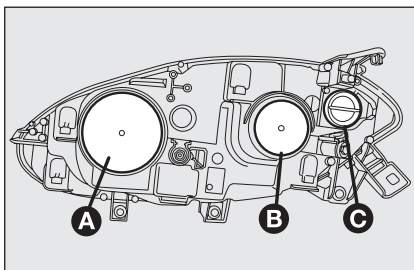
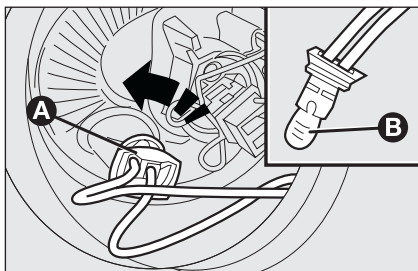

fig. 22
fig. 24
### FRONT LIGHT UNITS fig. 22
- remove the protective cover **B**-fig. 22;
- refit the protective cover **A**-fig. 22 correctly.
- remove the protective cover **A-fig. 22**;
- turn the bulb holder **A-fig. 24** counterclockwise and then withdraw it;
- fit the new bulb, refit the bulb holder **A-fig. 24** and then refit the protective cover **B-fig. 22** correctly.
- refit the protective cover **B-fig. 22** correctly.
- turn the protective cover **C-fig. 22** counterclockwise;